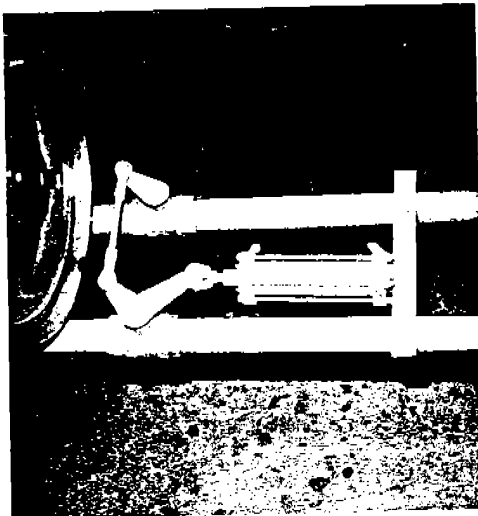

Figure 19
2. *Ball valve assembly inoperative.* (Fig 19).
4. *Check linkage on ball valve for correct adjustment.* See Figure 19.
5. *Check the condition of the stems on ball valves.* If they are sheared off—replace. (Fig. 19 & 22)